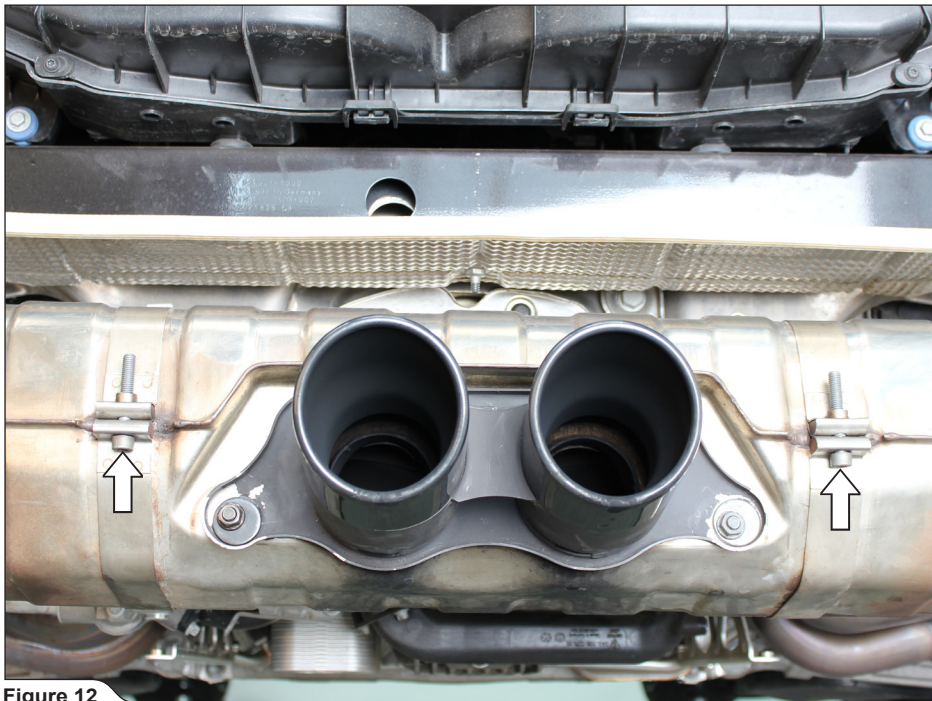

Figure 12
10. Unscrew the marked bolts and remove the central muffler with clamps off the vehicle (**Figure 12**).